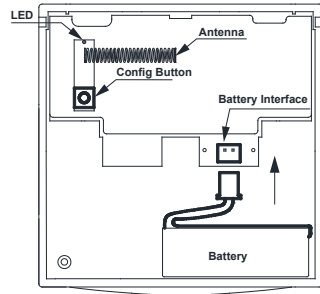

Fig. 2: Group configuration
NOTE: The unit comes separated from the bottom, ready for installation. However, if necessary, separate the front panel from the bottom by inserting the reset key and gently pulling the lower portion of the front face down and away from the front panel. Removing the operating element will expose the screws that hold the panel to the bottom (see Figs. 2 ~ 4).
4. To add a manual call point to the Group, press and release the Config button on the rear of the front panel on the manual call point twice within 2 s. The red LED will flash once to confirm connection to the Group (see Fig. 2).
To remove a manual call point from the Group, press and release the Config button 8 times within 5 s. The red LED will flash twice to confirm removal from the Group. (see Fig.2).